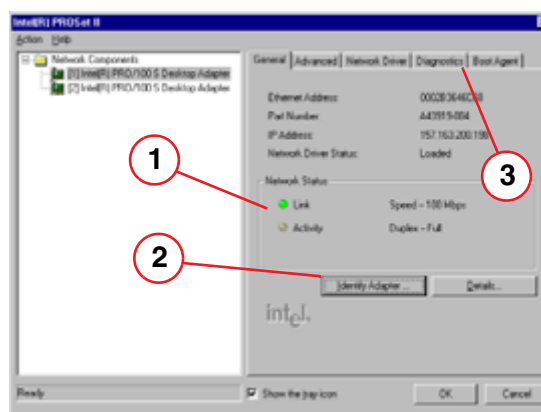

Fig. 2: Network status
- Check the “LED”s on the **Network status monitor mask**: The yellow “LED” **Activity** blinks and the green “LED” **Link** is ON (1/Fig. 2 / p. 18).
- Select an additional test by clicking the **Identify Adapters** button (2/Fig. 2 / p. 18)
- Select the adapter you want to test and open the **Diagnostics** window (3/Fig. 2 / p. 18)